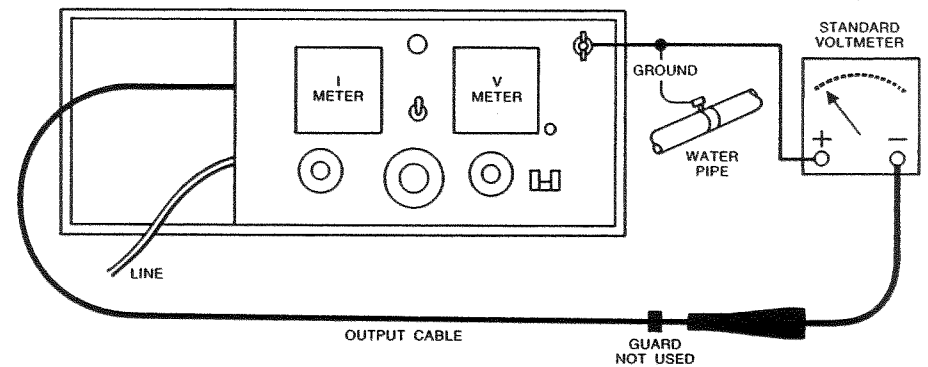

FIGURE 12: Connection for Calibration of Voltmeter.
1. Connect the test set as shown in Figure 12.